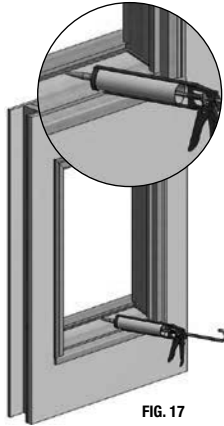

FIG. 17
- F) Apply silicone to the joints along the sill, side jamb and side sill stops. (Fig. 17)